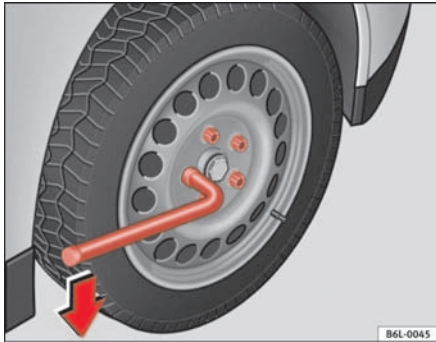

Fig. 133 Changing the wheel: Loosening the wheel bolts
- Grasp the box spanner by the end turn it about one full turn to the **left** ⇒ fig. 133.